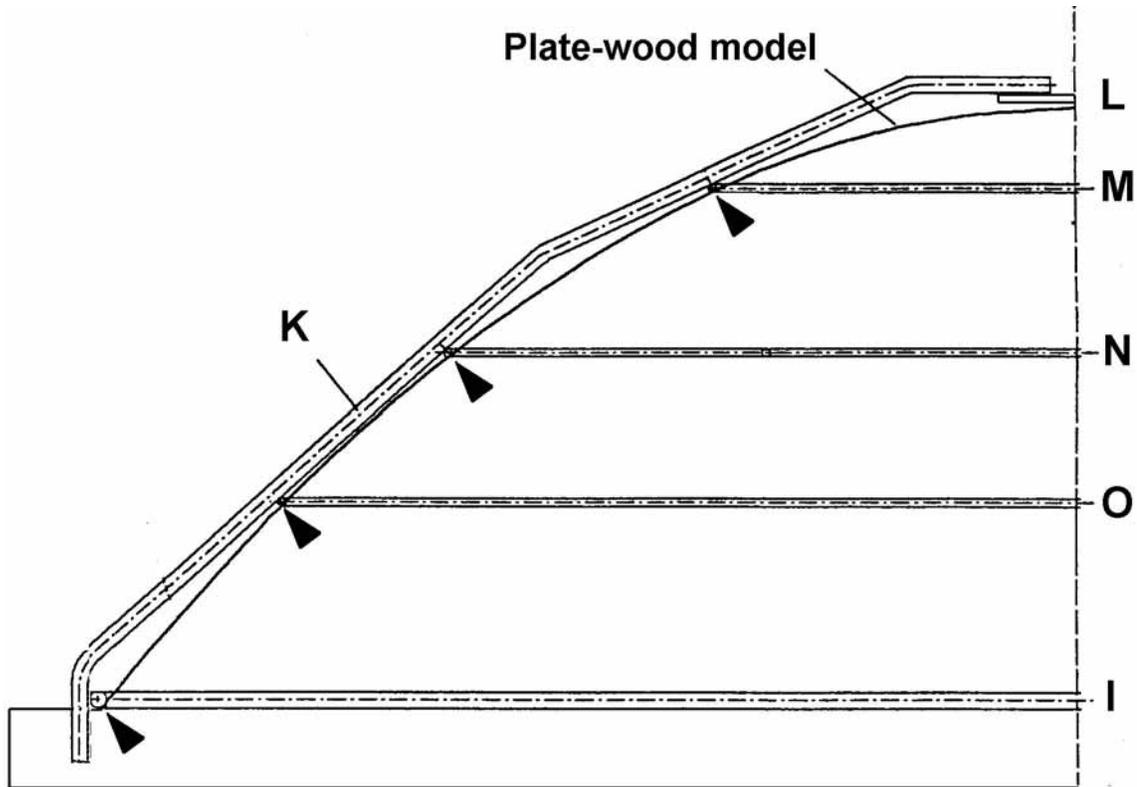

Figure 7: Connection bar K perfectly attached to the circles on the wood model
9. Cut seven pieces of 90 cm length and \varnothing 12 mm for the ring connection bars (part K). First bend only one bar according to figure 7. Then try it out at the wood-model with the rings. The connection bar has to touch all the 4 circles and the sheet metal without any force and without moving the rings! Normally several little corrections of the bending angles are needed until it fits.
10. Take one connection bar after the other, make corrections until the bar fits nicely (see figure 7), put it in one position marked on the largest ring and fix the connection bar with iron wire and pincers. Be very carefully not to move the ring during the twisting of the wire!